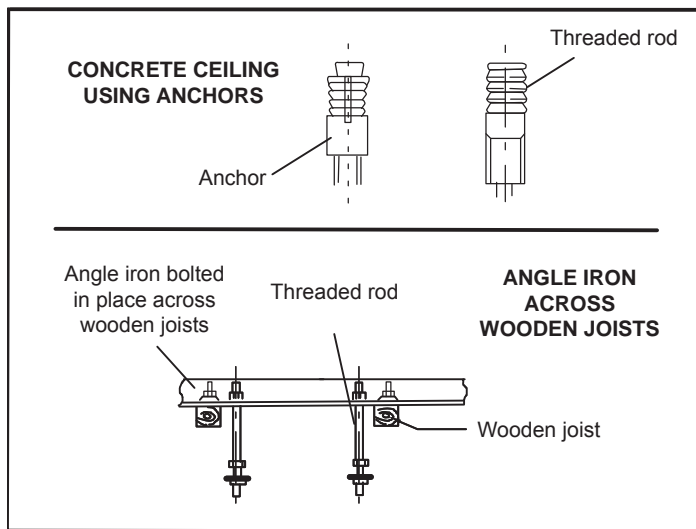

Figure 1. Locate Threaded Rods
- If the structural ceiling is constructed of concrete, install anchors to accept four $\frac{3}{8}$ " threaded rods to suspend the indoor unit. If the structural ceiling includes wooden joists, use angle iron or Unistrut channel fixed securely in place to accept the $\frac{3}{8}$ " threaded rods. See figure 1.